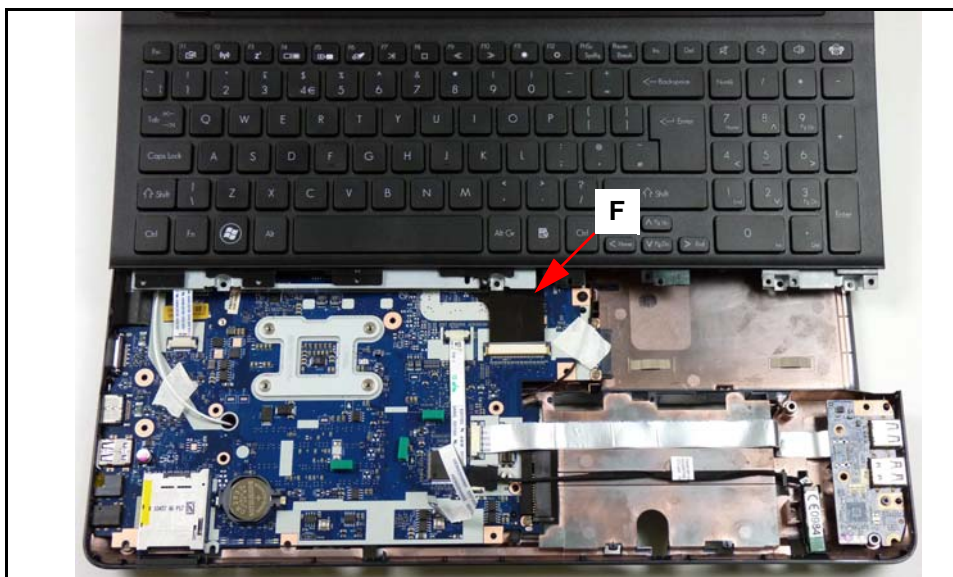

Figure 3-36. Upper Cover Installation
1. Place upper cover on lower cover. Make sure keyboard FPC (F) is visible. (Figure 3-36)